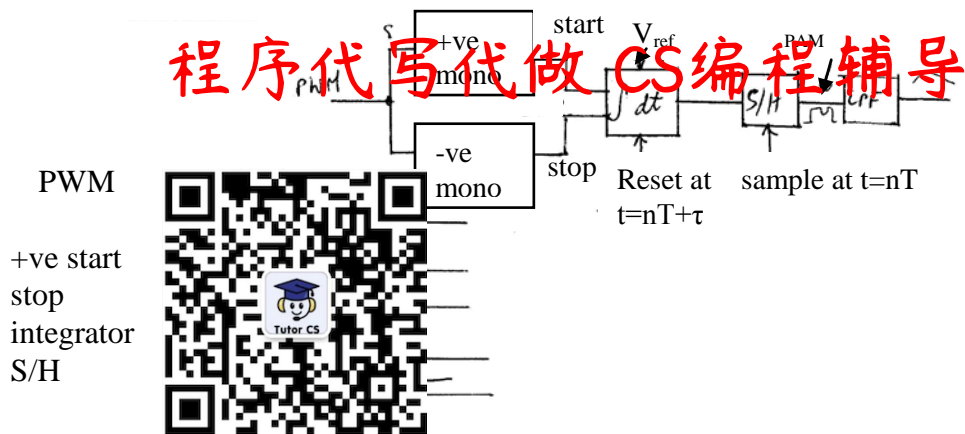
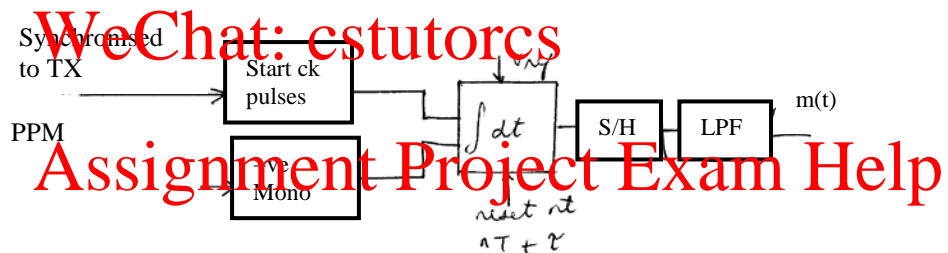

Figure 4 Block diagram of PWM demodulating circuit.
Figure 5 Block diagram for demodulating a PPM signal
Alternatively we can exploit the position of timing edges to change PWM into PAM, which is similar to FM demodulation. A block diagram of a demodulating circuit is shown in Figure 4. In the figure there are two mono-stables one which is triggered by the positive edge of the PWM signal and the second one is a negative edge triggered mono-stable which is triggered by the negative edge of the PWM signal. Using an integrator which starts with the positive edge and stops with the negative edge, and sampling it following the negative edge, the voltage on the sample and hold circuit is then proportional to the duration of the pulse. This effectively changes a PWM signal into a PAM signal. In the case of PPM – the information regarding the start of the pulse is **lost**, **and** only information about the stop is available i.e. to detect PPM we need a generator or a circuit (CT) to derive the start pulses as shown in Figure 5 where the positive triggered mono-stable is replaced by a local clock generator synchronised to the transmitter.